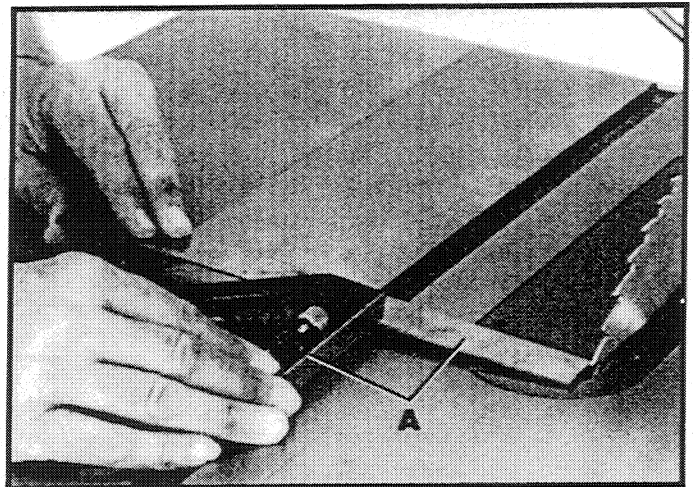

Fig. 67
2. Place a combination square (A) Fig. 67, on the table with one edge of the square in the miter gage slot, as shown, and adjust the square so the rule just touches one of the teeth on the saw blade at the forward position, as shown in Fig. 67. Lock the square in this position.